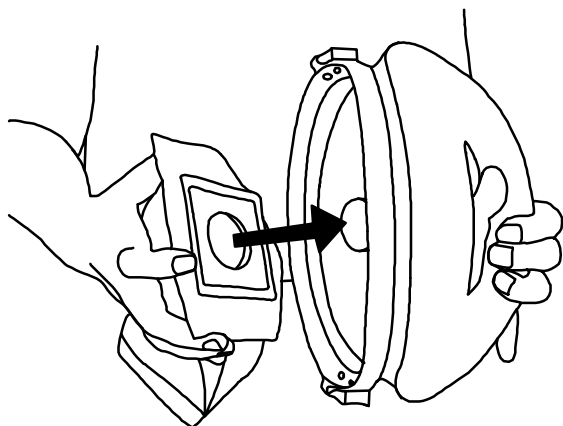

FIG. 16
3. Install a Micro filter (if there is not one already installed) by sliding the gasket of the Micro filter over the inlet on the inside of the top cap (Figure 16). Replace the cap, making sure that the latches catch correctly.